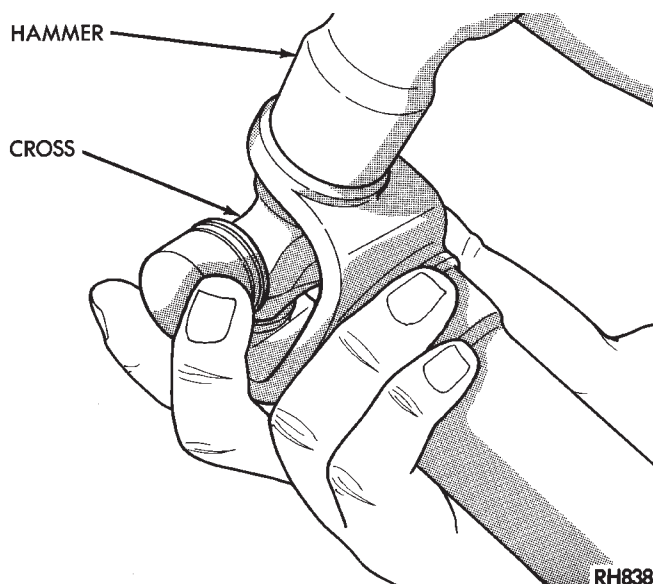

Fig. 5 Assemble Universal Joint
(1) Hold cross in position between yoke ears with one hand and start one bushing assembly into yoke with other hand (Fig. 5).
(2) Continue to hold cross in position, then hammer bushing assembly into yoke and install snap ring.
(3) Install opposite bushing and snap ring in the same manner.
(4) Repeat process for stub shaft yoke after aligning marks on yoke and shaft.